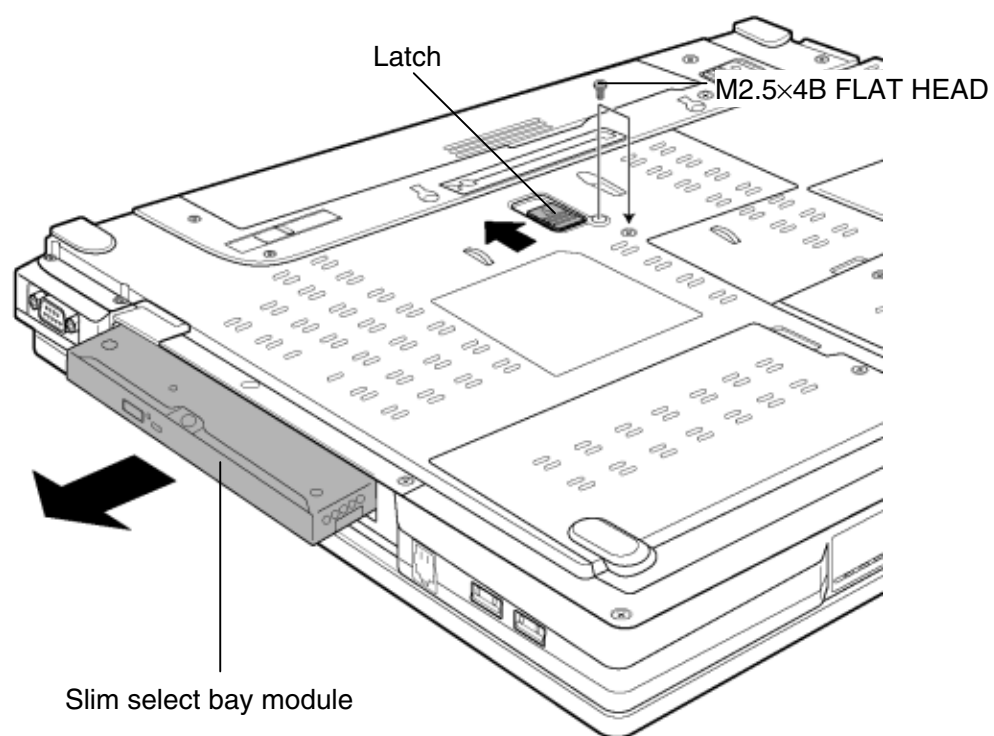

Figure 4-8 Removing the slim select bay module
To remove the slim select bay module, follow the steps below and refer to Figure 4-8 and 4-9. The explanation and figure shown below are the optical drive removing/installing. As for other module, the procedure is same.
2. While sliding the **latch** toward the arrow direction in the Figure 4-8, pull out the slim select bay module to disconnect it from the system board.
To install the slim select bay module, follow the steps below and refer to Figure 4-8 and 4-9.